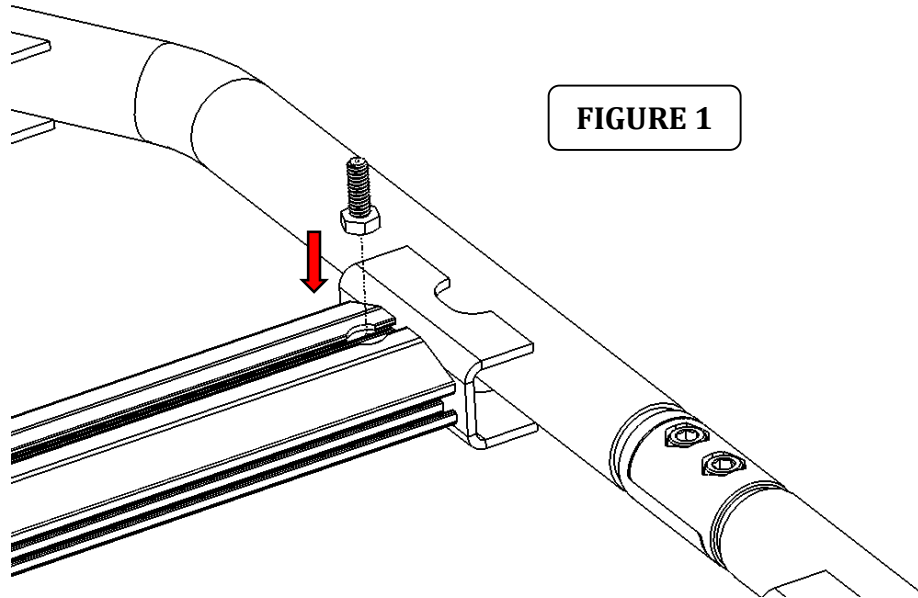

FIGURE 1
**Step-1** Install (1) 1/4" x 3/4" hex bolt for every rail bracket in the channel of every crossbar that will be facing up the rail plates. (Fig 1).